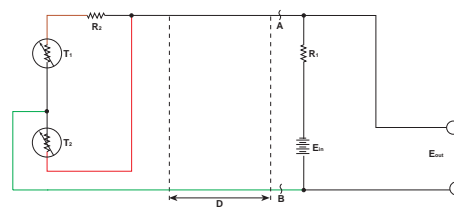

Figure 3 Voltage Mode
- For voltage mode, connect R_2 to the thermistor composite. (See Figure 3.) This unit can function as the temperature sensor and be located remote from the signal conditioning circuit by up to distance "D".